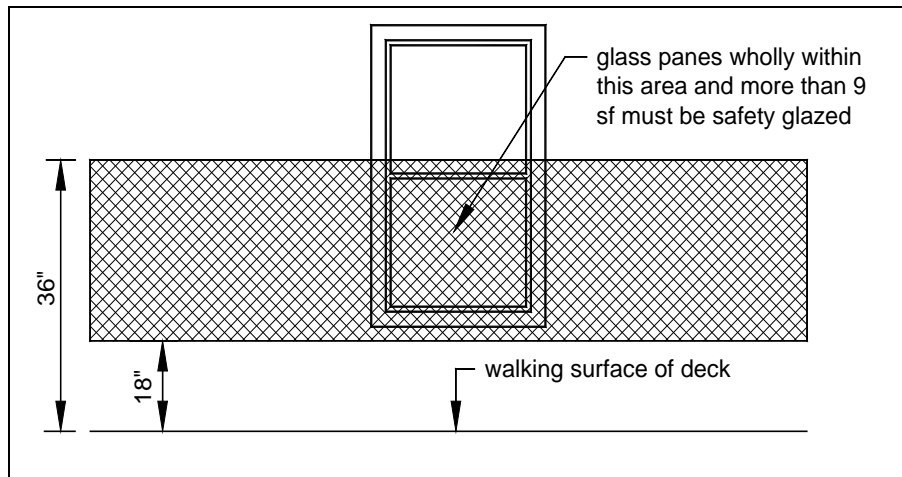

FIGURE 41: SAFETY GLAZING AREA AT WALKING SURFACE
- Adjacent surface of deck: individual panes wholly located in the area identified in FIGURE 41 with a total pane area greater than 9 sf.